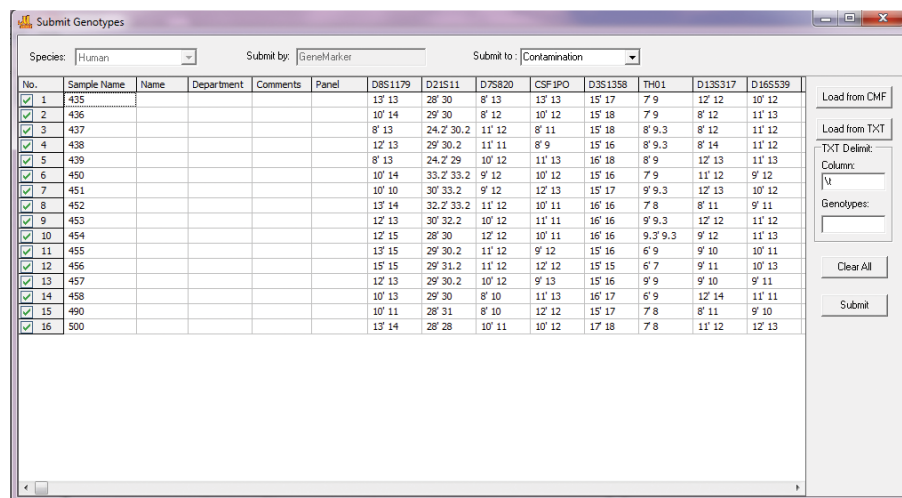

Figure 202. 'Submit Genotypes' window after the .txt file shown in Figure 200 was used to import genotypes.
8. Select **OK** to return to the 'Submit Genotypes' window (Figure 202). The genotypes from the selected file will be listed in the window.